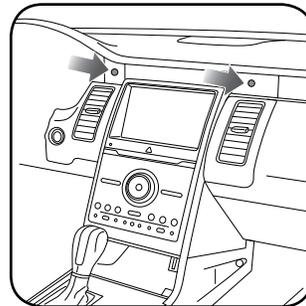

Fig. 1.3
3. Remove (2) 7mm screws from the top of the radio bezel. (Fig. 1.3)